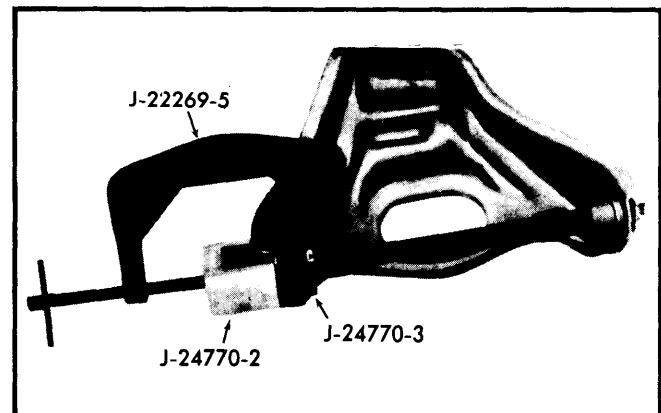

Fig. 2 Removing Upper Control Arm Bushing
**Bushing Removal** – Remove upper control arm. Remove bushing nuts. Using suitable tools (J-22269-5, J-24770-2 & J-24770-3), remove bushings (see Fig. 2).